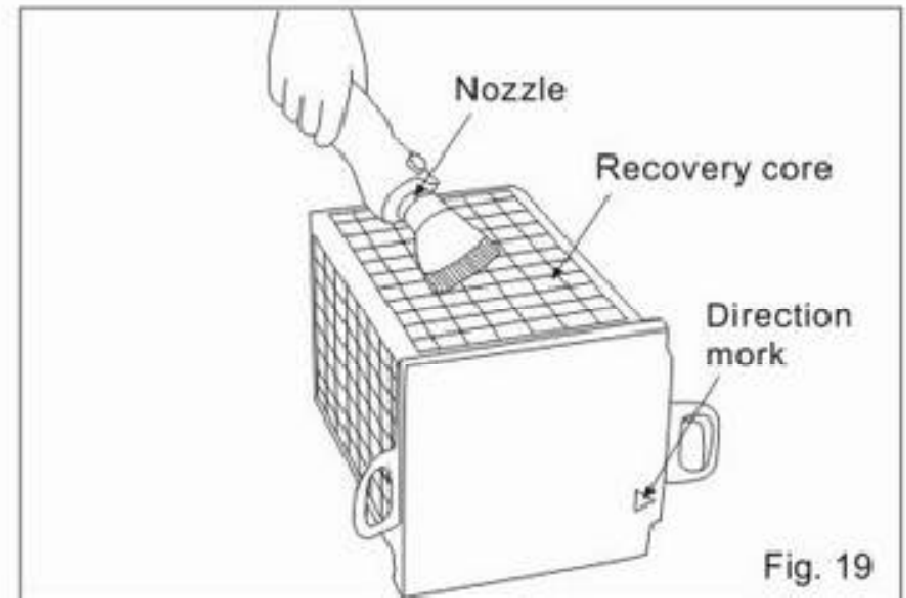

Fig. 19
④ Vacuum-clean carefully. (Fig.19)